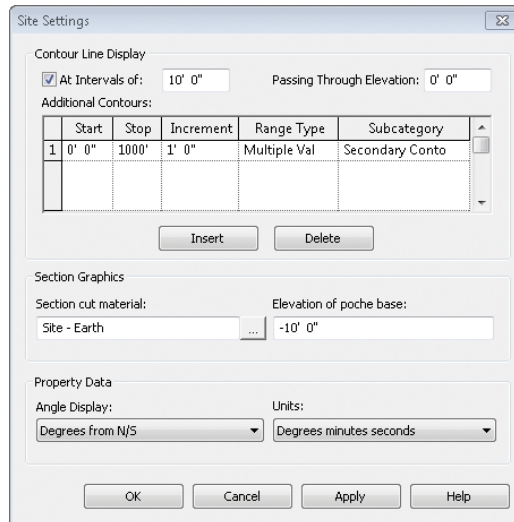

FIGURE 13.9 This section view illustrates how the building pad adjusts the extents of the topographic surface.
8. Double-click the section head in the plan view to examine your results. Notice that the top of the building pad is at the Cellar level and the poche of the topographic surface has been removed in the space of the cellar (Figure 13.9).